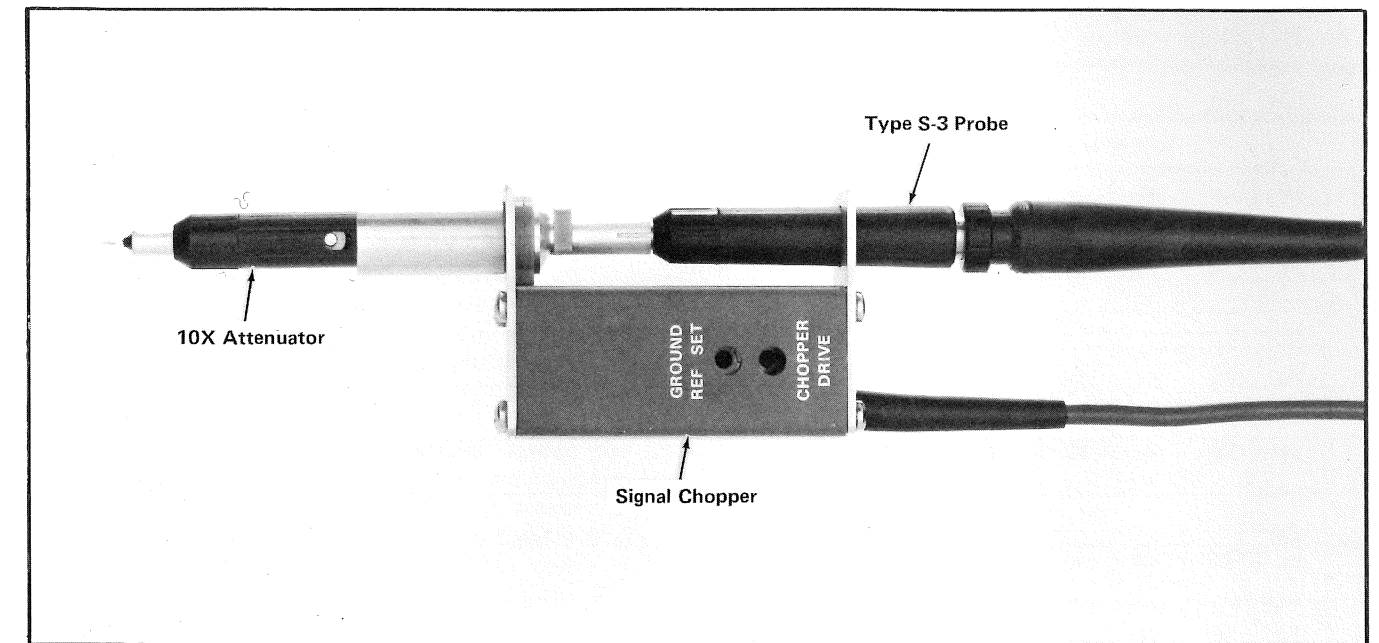

Fig. 2-25. Connection of Type S-3 probe to signal chopper.
1. Connect the Type S-3 probe tip to the signal chopper as shown in Fig. 2-25. Be sure the number on the signal chopper and the number on the Type S-3 coincide.
2. Connect a 10X attenuator (supplied with the chopper quad) to the signal chopper as shown in Fig. 2-25.